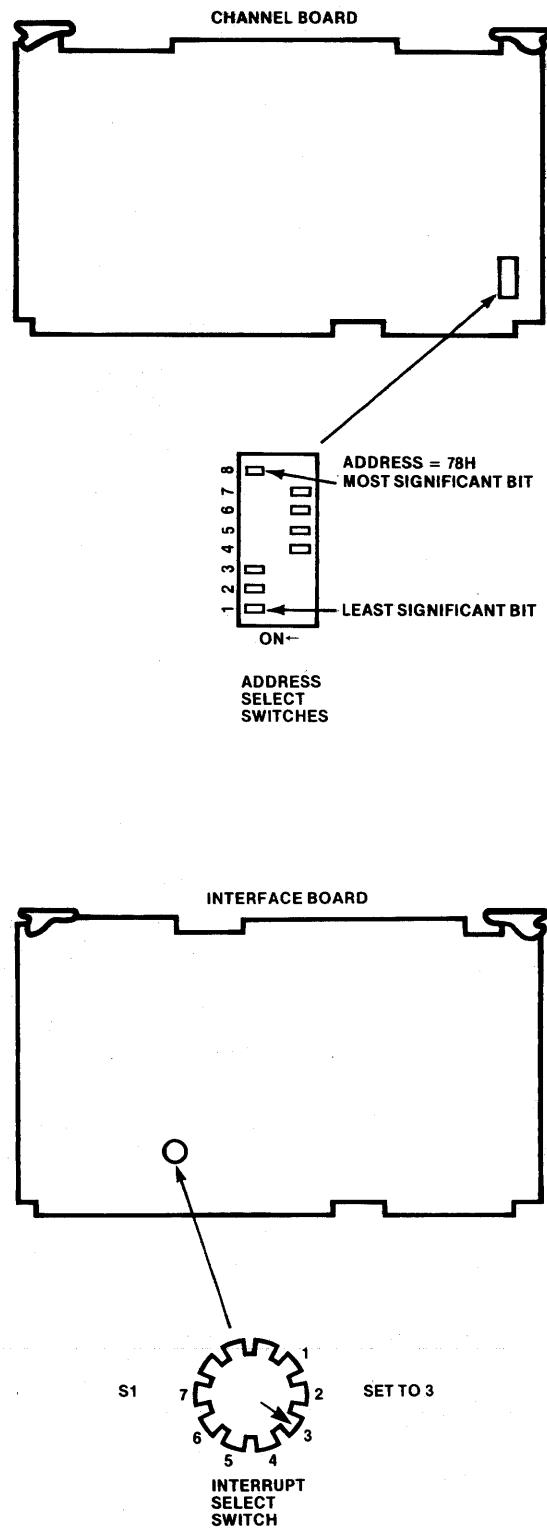

Figure 5-11. Channel Board and Interface Board Switch Settings
- a. On channel board, set address select switches to 78H as shown in figure 5-11.